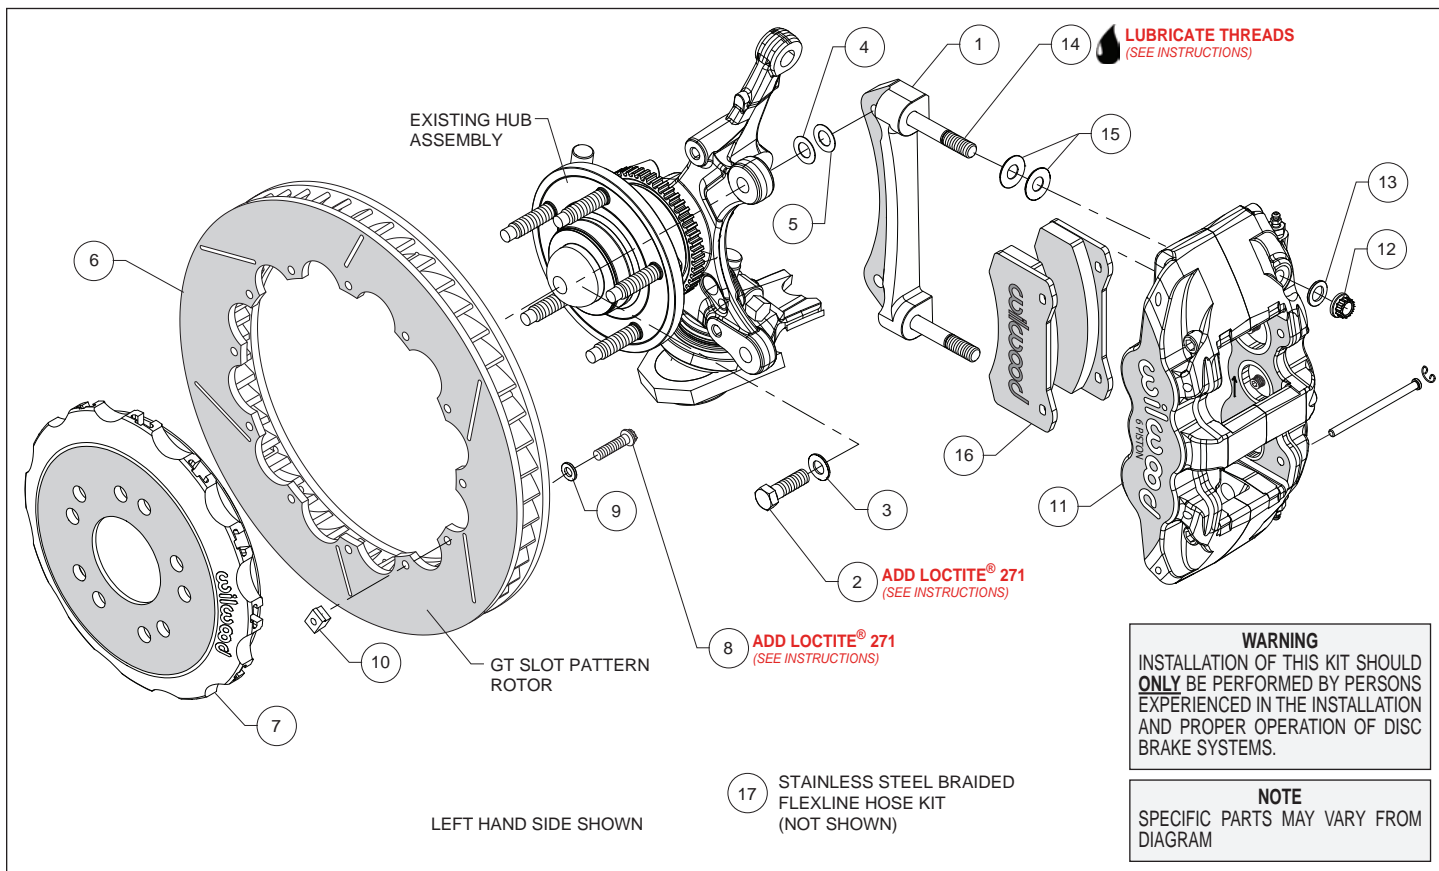
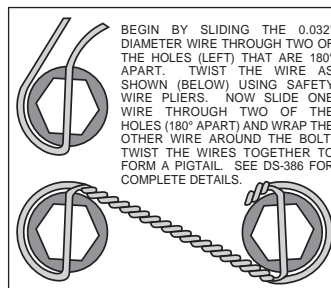

Figure 1. Typical Installation Configuration
Figure 4. Safety Wire Diagram
Assembly Instructions (numbers in parenthesis refer to the parts list and Figure 1 on the preceding pages):
- The caliper mount bracket (1) should initially be installed with clean, dry threads on the mounting bolts. Orient the bracket, as shown in Figure 1 and Photo 1, and install using bolts (2) and washers (3). Initially place one .033" thick shim (4) on each bolt between the bracket and upright, Figure 1. Temporarily tighten the mounting bolts. **NOTE:** *The bracket must fit squarely against the mount bosses on the upright.* Inspect for interference from casting irregularities, machining ridges, burrs, etc. Later, after the caliper alignment has been checked, the mount bolts will be secured using red *Loctite*[®] 271.
- Orient the rotor (6) and the hat (7) as shown in Figure 1 and Photo 2. Attach rotor to hat using bolts (8), washers (9), and t-nuts (10), Figure 1. Follow additional instructions included with the bolt kit. Using an alternating sequence, apply red *Loctite*[®] 271 to the threads, and torque to 120 **in-lbs**. For an added measure of security, the bolts may be safety wired using standard 0.032 inch diameter stainless steel safety wire as shown in Figure 4. Refer to Wilwood's data sheet DS-386 (available at www.wilwood.com/Pdf/DataSheets/ds386.pdf) for complete safety wire installation instructions.
- NOTE:** *This kit contains distinct right and left hand calipers that must be mounted in a specific direction, as described below.* Lubricate the caliper mounting studs (14) with lightweight oil. Initially place two .030" thick shims (15) on each stud between the caliper and the bracket, as shown in Figure 1 and Photo 3. Mount the caliper (11) onto the bracket (1) using lock nuts (12) and washers (13), Figure 1. Temporarily tighten the lock nuts. Ensure that the caliper is mounted so the largest pistons are at the rotor exit end of the caliper, in relation to the direction of the rotor. View the rotor through the top opening of the caliper. The rotor should be centered in the caliper, Photo 4. If not, adjust by adding or subtracting shims (4 and/or 5) between the bracket and the upright. Always use the same amount of shims on each of the two mounting bolts. Once the caliper alignment is correct, remove the bracket mounting bolts one at a time, apply red *Loctite*[®] 271 to the threads, and torque to 60 ft-lbs.
- Remove the two pad retaining pins from the caliper (11) by carefully popping out the pin retaining clips and sliding out the pins. Insert the brake pads (16) into the caliper from the bottom, Figure 1 and Photo 5. With the friction material facing the rotor, secure the brake pads in place with the pad retaining pins and clips, Photo 6. Reinstall the caliper onto the caliper mounting bracket and temporarily tighten the lock nuts. Check that the top of the brake pad is flush with the outside diameter of the rotor, Photo 7. If not, adjust by adding or subtracting shims (15) between the caliper and the bracket. After the caliper pad height is set, torque the caliper lock nuts (12) to 47 ft-lb.